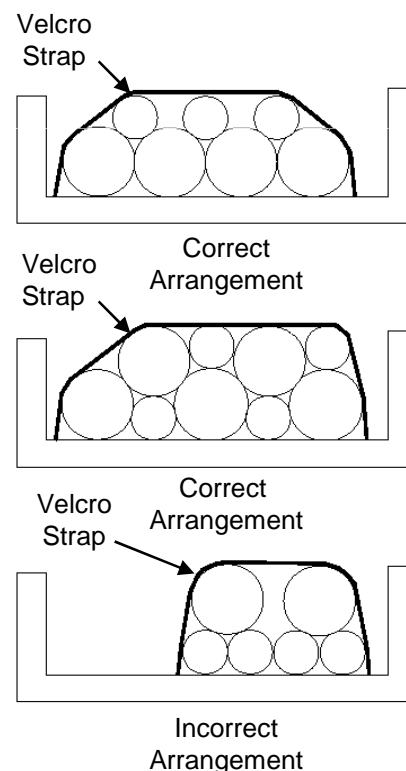

Figure 2
10.2 Always place larger, heavier TP2 tube cables on the bottom layer and smaller, lighter TP2 tube cables on the top layer. Another acceptable method is to stagger large and small tube cables to distribute loading. Never stack more than two (2) TP2 cables high. **See Fig. 2.**